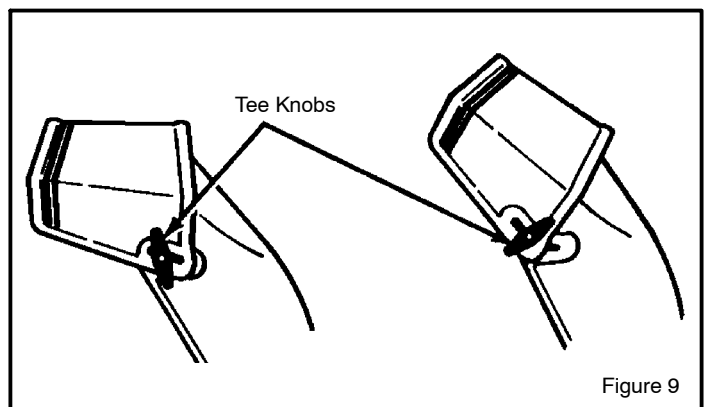

Figure 9
2. Adjust snow chute deflector. Loosen wing nut on the side of the snow chute and raise chute deflector for more distance. Tighten wing nut. (see Figure 9).